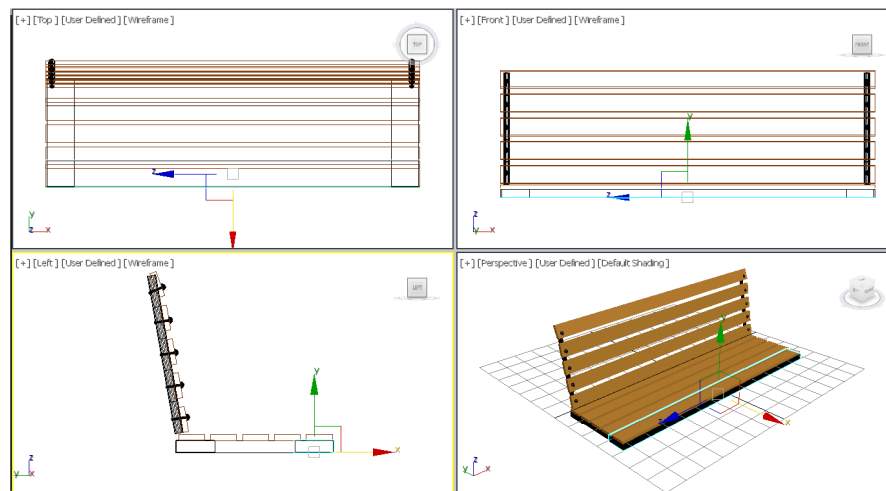

Figure 2-90 Alignment of leg support004 in viewports
12. Choose the **Select and Move** tool and align *leg support004* with *horizontal seat support* in all the viewports, refer to Figure 2-90.